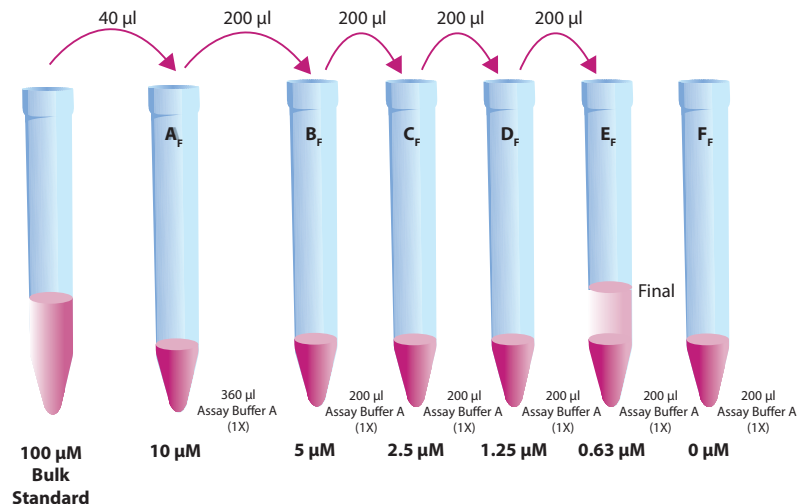
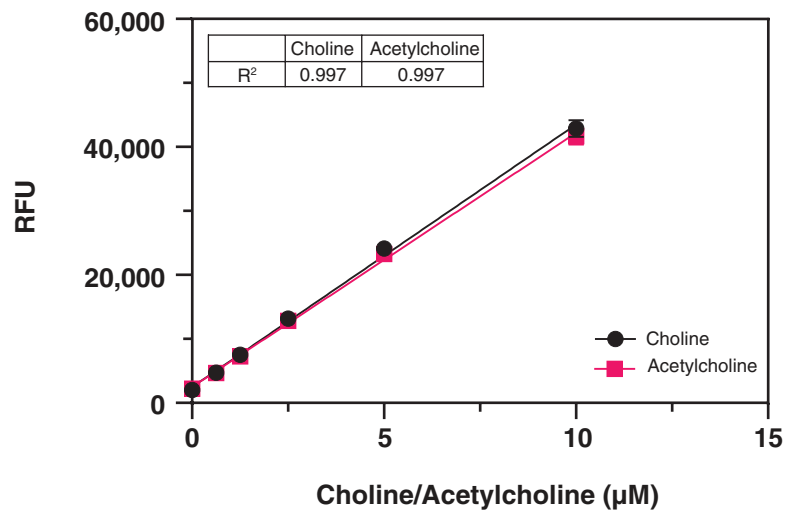

Figure 6. Preparation of the acetylcholine/choline standards for the fluorometric assay format
Figure 8. Choline and acetylcholine standard curves for the fluorometric format
3. Plot the corrected signal values of each standard as a function of the final concentration of choline and/or acetylcholine from Figures 6 and 7, on pages 20 and 21. See Figures 8 and 9, on pages 28 and 29, for typical standard curves.